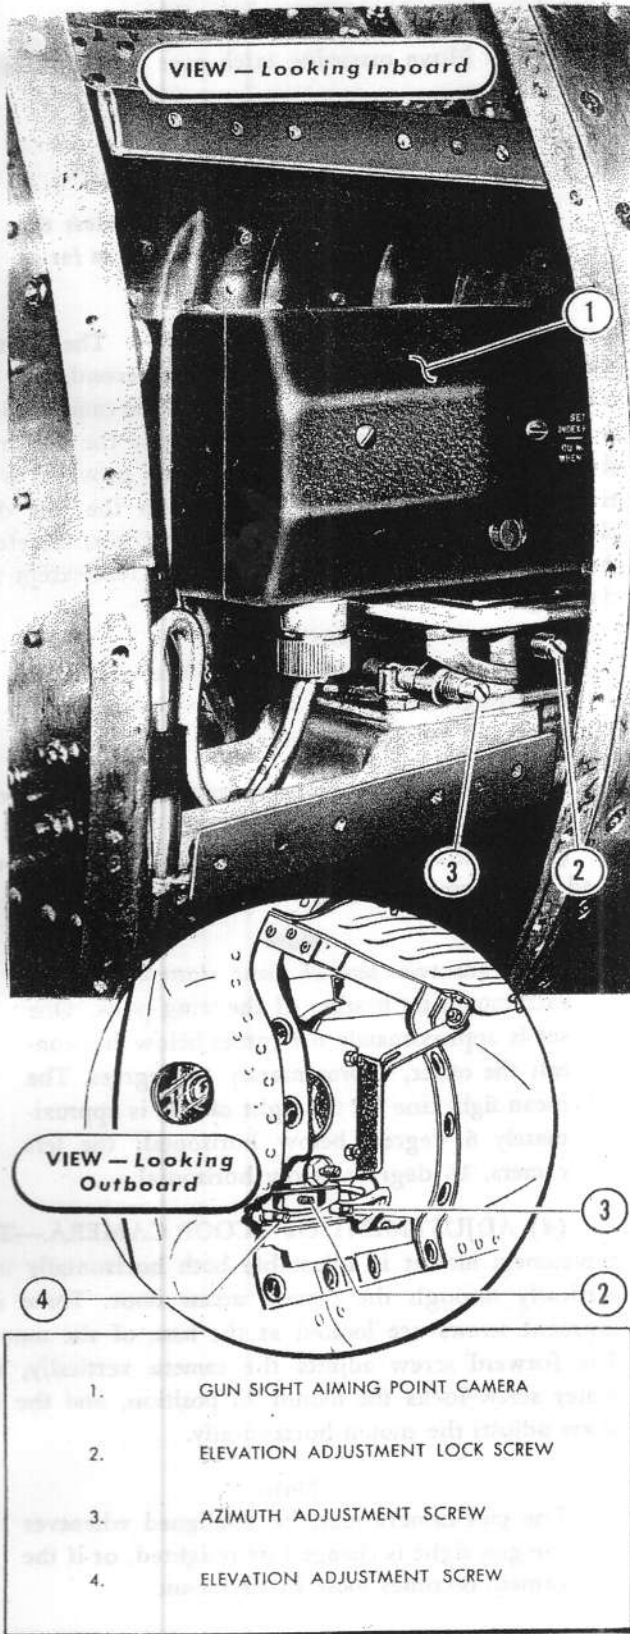

Figure 242 — Gun Camera Installation
(6) GUN CAMERA ADJUSTMENT. — Adjust gun camera with the aid of a magazine-type camera sight to align with the camera sighting mark on the target.
e. GUN CAMERA. (See figure 242.)
(1) DESCRIPTION.—One type N-6 gun camera is mounted in the outboard leading edge of the right air intake scoop, and one type N-6 gun camera is mounted in each wing pod. A hinged panel inside the scoop provides access to the camera and its adjustable mount. The nose of each wing pod must be removed to provide access to the cameras. Each camera has an internal over-run device, which allows the camera to operate for two seconds after the trigger switch has been released. A heater and a receptacle for a lens heater are built into each camera. When the armament master switch is in either "GUNS" or "SIGHT AND CAMERA" position, each wing pod camera can be operated.